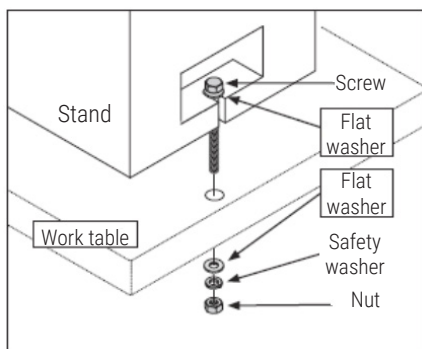

Figure 1 Installing the machine on the work table
- Position the grinder on the work table with screws that are long enough to pass through the work table and grinder stand. Secure each bolt with a flat washer, safety washer, and hexagon nut, as shown in Figure 1.